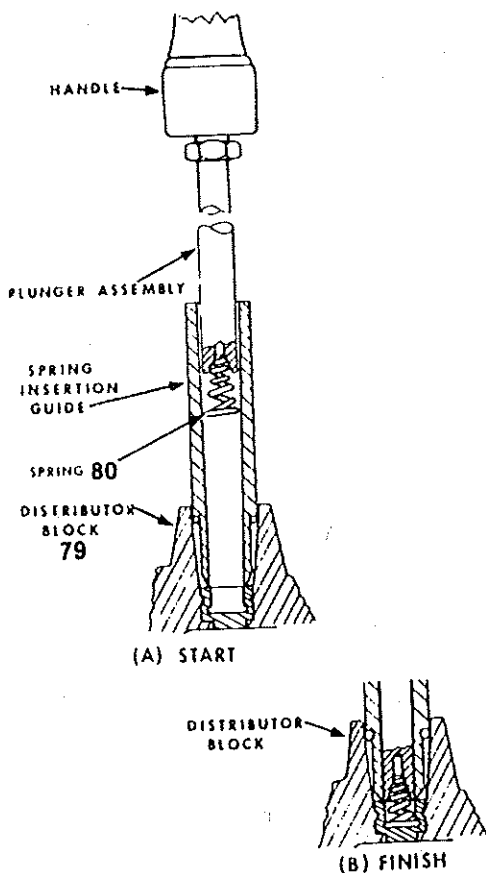

Figure 906. Installing Contact Springs
- A. If new contact springs (80) are to be installed in distributor block (79), use the 11-8627 Spring Sealing Kit. Insert the 11-8626 Spring Insertion Guide in cable outlet hole of distributor block as shown in Figure 906. Place contact spring (80), large end down, in top of the 11-8626 Guide and position the 11-8625 Plunger Assembly with the 11-3699 Handle attached, over the small end of spring. See Figure 906. With a firm counter clockwise pushing motion, seat spring in recess of block (79). Spring is properly installed when bottom turn is caught in groove of block and top turn is approximately centered in outlet. See Figure 906. Check spring height in accordance with paragraph 7.2.4.E.
- B. Position block (79) in distributor housing (48) and install screws with plain and lockwashers (78). Tighten all screws evenly with a torque of 16 to 20 lb-in.
- C. Saturate a new, or clean, undamaged felt washer (82) with Distributor Block Lubricant 10-391200. Blot excess oil from washer until flat surfaces take on a "frosted" appearance, and seat washer in recess of block.
- D. Assemble nylon washer (77) and steel skid washer (76) (0.562 in OD) onto gear (72) shaft. Slide large distributor gear (72) into place. Install washer (75) (0.750 in OD) and retaining ring (74). Be sure retaining ring snaps firmly into mating groove. If ring is a loose fit, replace it. Do not attempt to reform ring. Install new carbon brush (73) in gear.